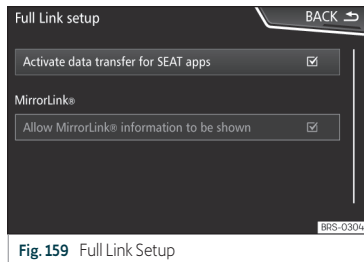

Fig. 159 Full Link Setup
- In the main menu for the Full Link setup, select **Activate data transfer for SEAT apps** »» Fig. 159: